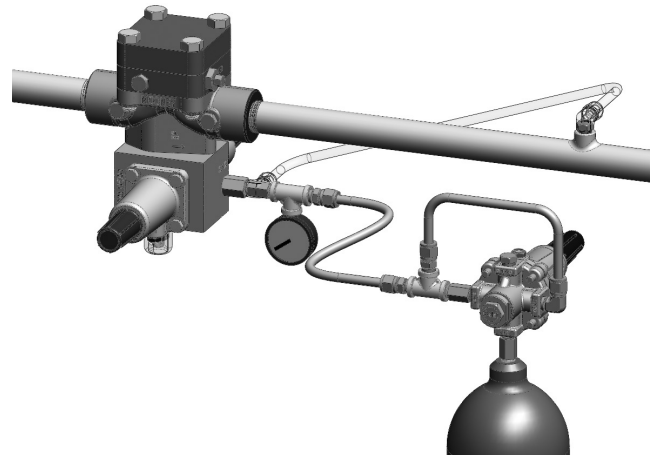

Figure 5
### Shutoff Test – Overpressure Protection Only (See Figure 5)
2. Connect a pressurized bottle into the Slam Shut Sense Port and apply a constant pressure above the Underpressure set point (and below the Overpressure set point if applicable). (See Figure 5).